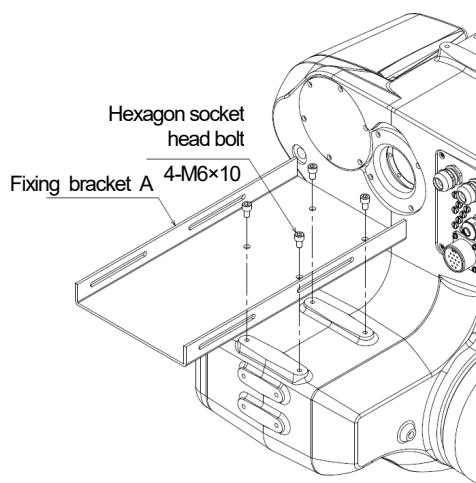

Figure 1.4 Mounting of fixing bracket
1. Referring to Figure 1.4, mount the fixing bracket onto the posterior part of JT3 of arm using four hexagon socket head bolts (M6×10).